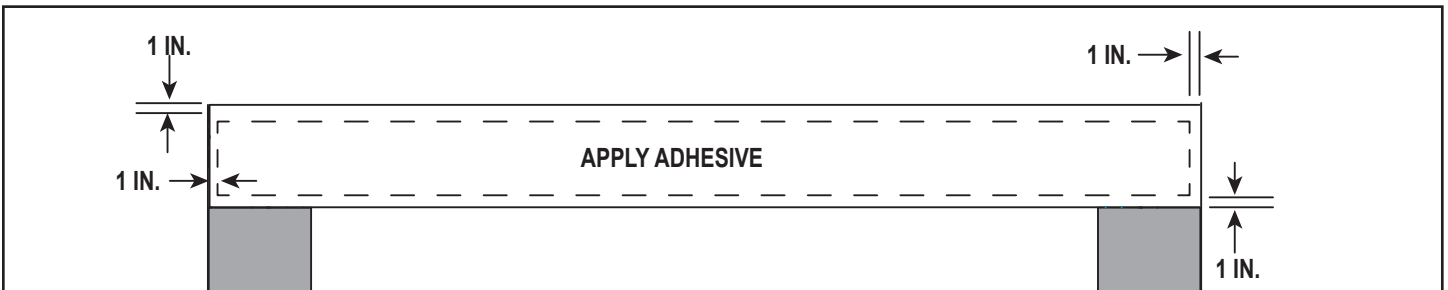

Figure 10.28. Apply Adhesive For Top and Bottom Granite
- Apply a generous amount of adhesive to the back side of the bottom granite piece. The same method will be used for top and bottom pieces. See Figure 10.28 for appropriate zone to apply adhesive. DO NOT apply adhesive too close to the edges. Leave 1 in. around edges. Avoid leakage of adhesive around edges by not applying it too close to the edge of the granite. Place
- Apply a generous amount of adhesive to the back side of the top granite piece. See Figure 10.28. The granite material is heavy and will need to be adequately secured to the wall.